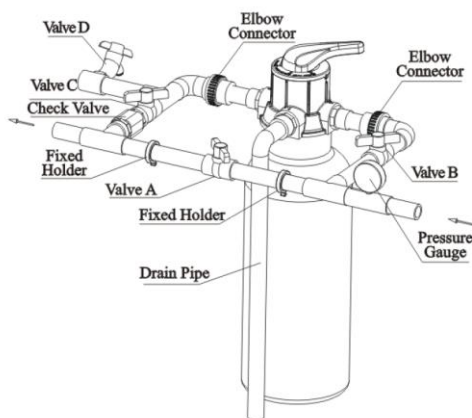

Figure 1-2
② Pipeline connection
- As Figure1-2 shows, install a pressure gauge in water inlet.